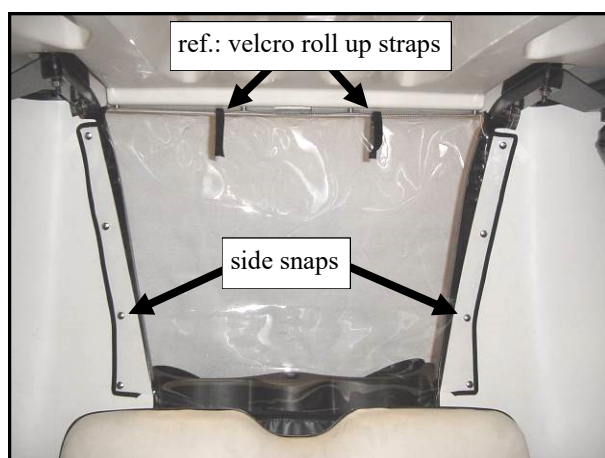

Fig. 9.3 (view from front of vehicle)
9.3 Per fig. 9.3, install the clear, top, rear curtain by engaging the four (4) snaps per left and right sides, then the four (4) snaps up top on the roof, then lastly attaching the velcro where the two rear curtains meet just above the top of the seatback. Note: fig. 9.3 also shows the velcro roll up straps. For ventilation, unsnap four snaps per left and right side for a total of eight snaps, disengage the horizontal piece of velcro holding the two halves together, then roll the clear rear curtain up utilizing the mating velcro straps to hold it up out of the way (leave the four top snaps in the roof engaged).